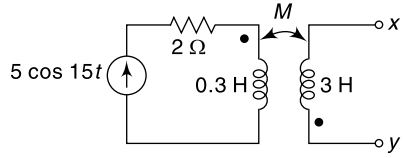

Fig. 14.16
14.27 Determine the total energy stored in the passive network shown in Fig. 14.16 at $t = 0$. Assume $K = 0.5$ and terminals x and y (i) open circuited (ii) short circuited.
From Fig. 14.16, we have